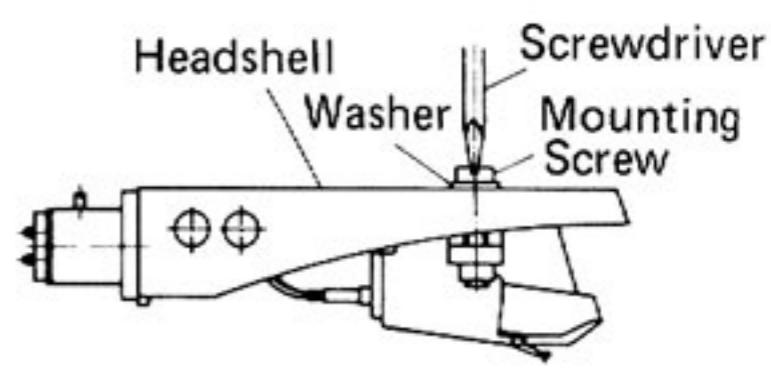

Fig.2.
3. If the difference in "L" exceeds 2 mm, or if you wish to adjust the difference more accurately, loosen the retaining screw with a screwdriver and slide the cartridge in either direction to position the stylus tip at the right point. (Fig. 2.)